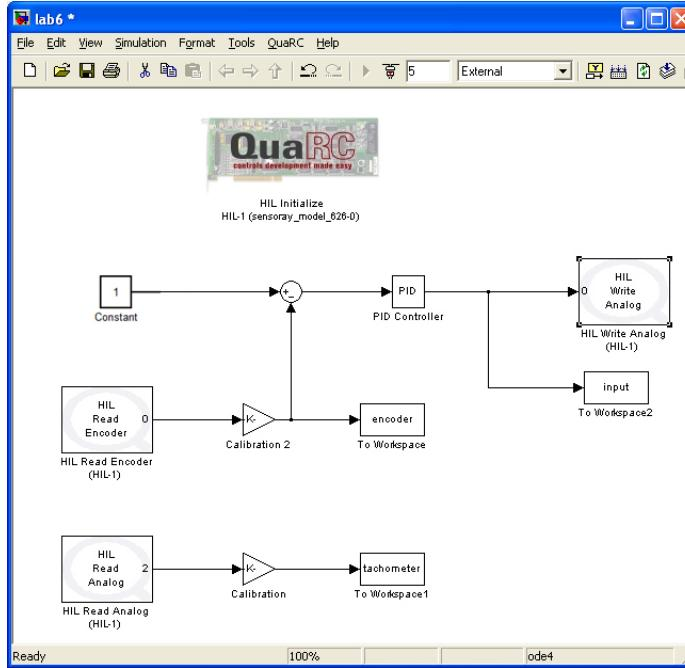

Figure 4.2: Simulink model for the implementation of PID control using frequency response method; step reference
1. Open Matlab and build a Simulink model according to Figure 4.2.